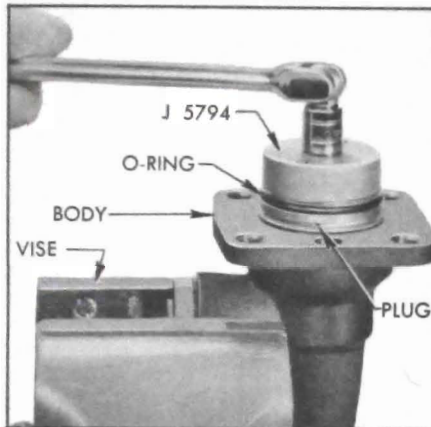

Figure 9-22—Removing Cylinder Plug
12. Unscrew and remove cylinder plug from hydraulic cylinder body, using Spanner Wrench J 5794 (fig. 9-22), then remove secondary cup, cup support, retainer, and vacuum cup seal.
5. Center the secondary cup retainer on piston bearing and screw cylinder plug down into cylinder body, using care not to damage O-ring or secondary cup. Tighten plug firmly, using Spanner Wrench J 5794 (fig. 9-22).